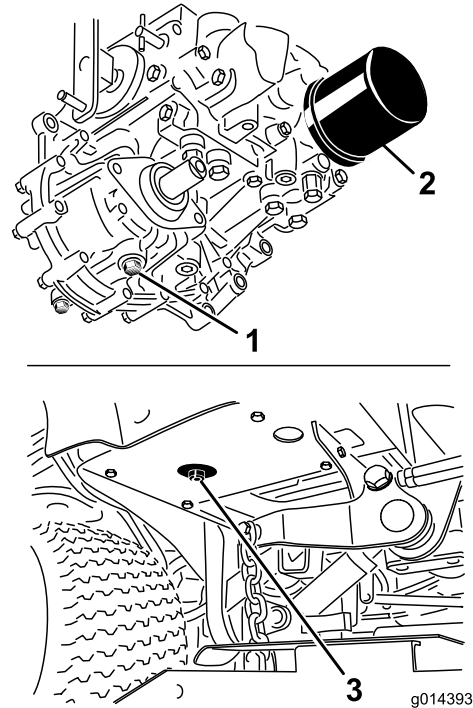

Figure 49
3. Place a large pan under the hydraulic reservoir and transmission case and remove the plugs, draining all of the hydraulic fluid (Figure 49).
4. Clean the area around the hydraulic-fluid filter and remove the filter (Figure 49).